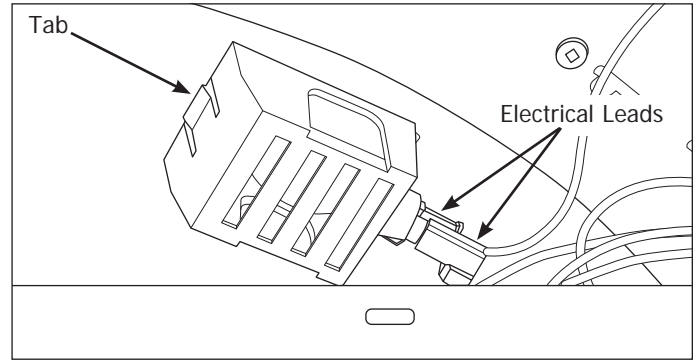

Figure 4-18. Light Assembly Removal
3. Press in the retaining tab and push light assembly through inner panel, rotate 90 degrees to pull out through hole in inner panel. (See Figure 4-18)